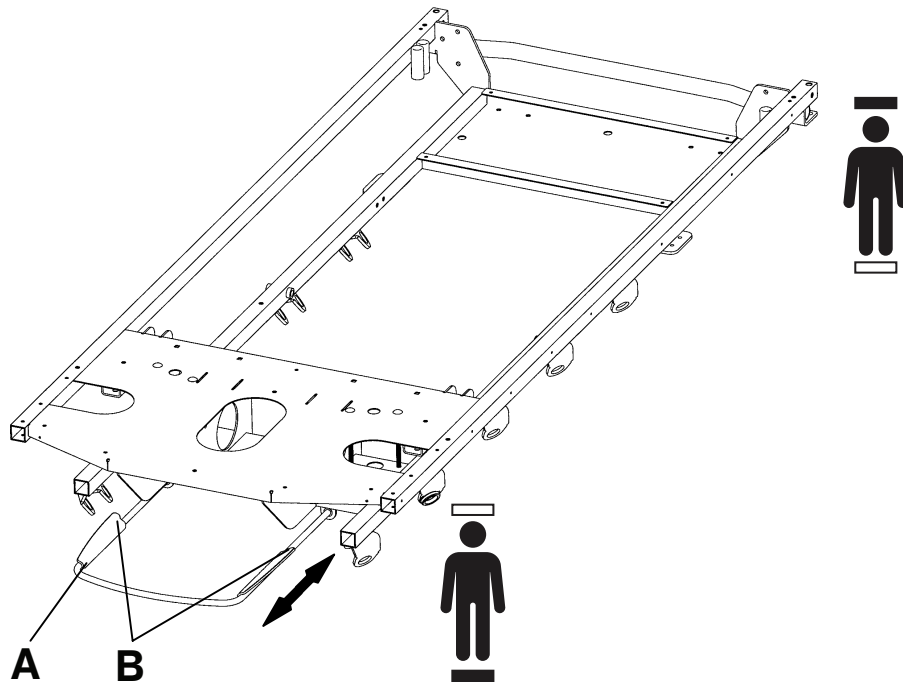

Figure 6: Position the waste bin holder
2. Slide the waste bin holder (A) out from under the litter frame (Figure 6 on page 17).
4. Secure the top of the basin on the "wings" (B) of the waste bin holder.